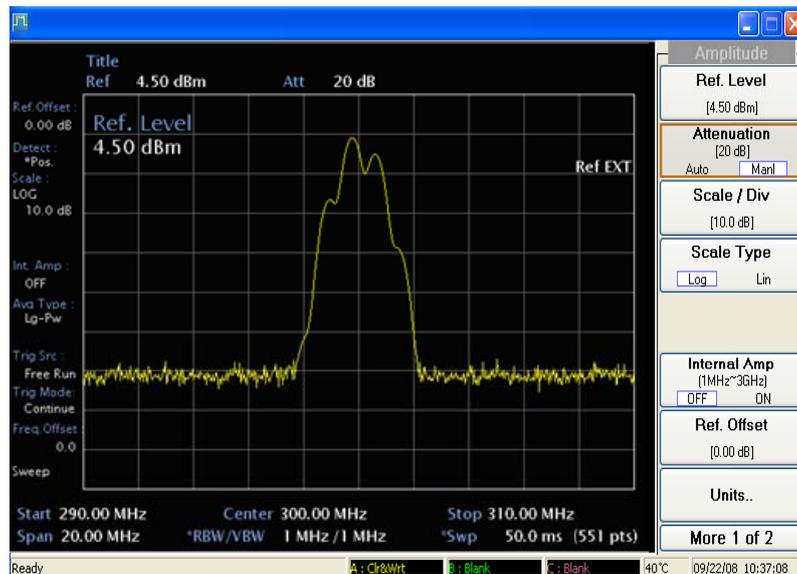

Fig. A-23 Viewing an AM signal
- 6 Set the resolution bandwidth to 1 MHz by pressing [BW], [RBW Man], [RBW] 1 MHz. See Fig. A-23.